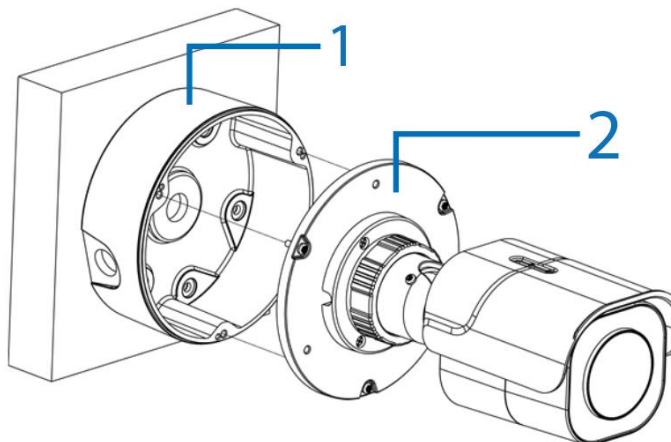

Figure 12
- Align the three holes on the camera base (2) (Figure 12) with the three holes on the junction box (1) (Figure 12).